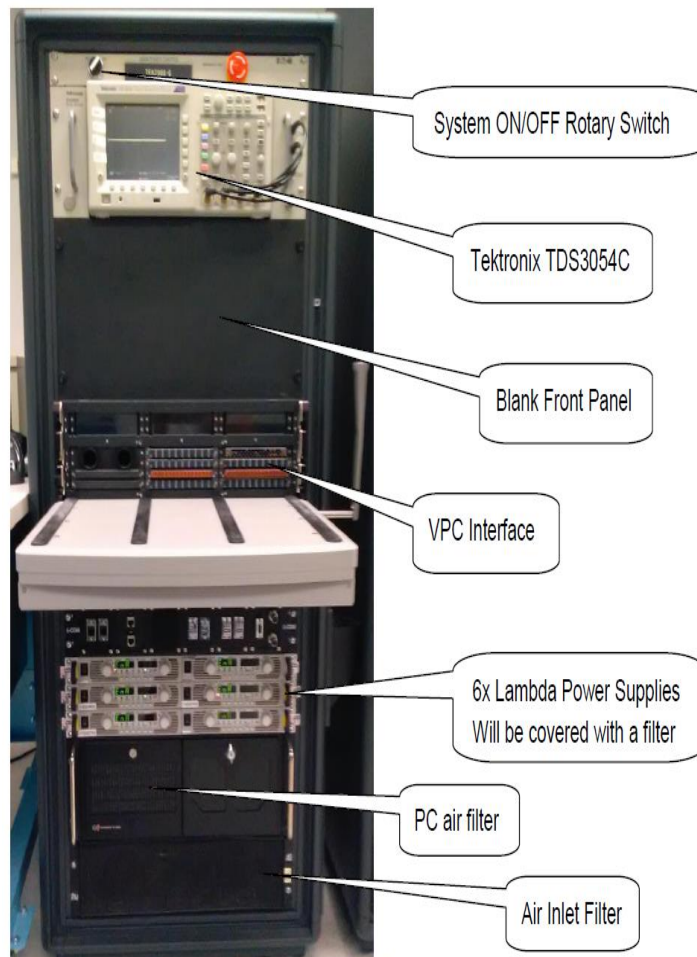

Figure 1
- 5.2.2.5 Inspect the VPC Interface (Figure 1). Vacuum the connector blocks. Ensure rows 5 and 6 contain blank panels.